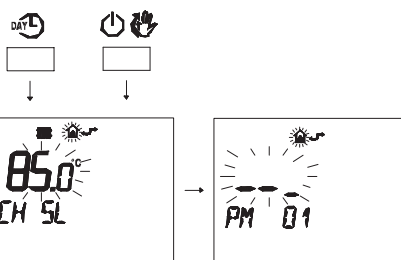

Fig. 7.33
- Press buttons  and  at the same time to enter transparent programming (Fig. 7.33).